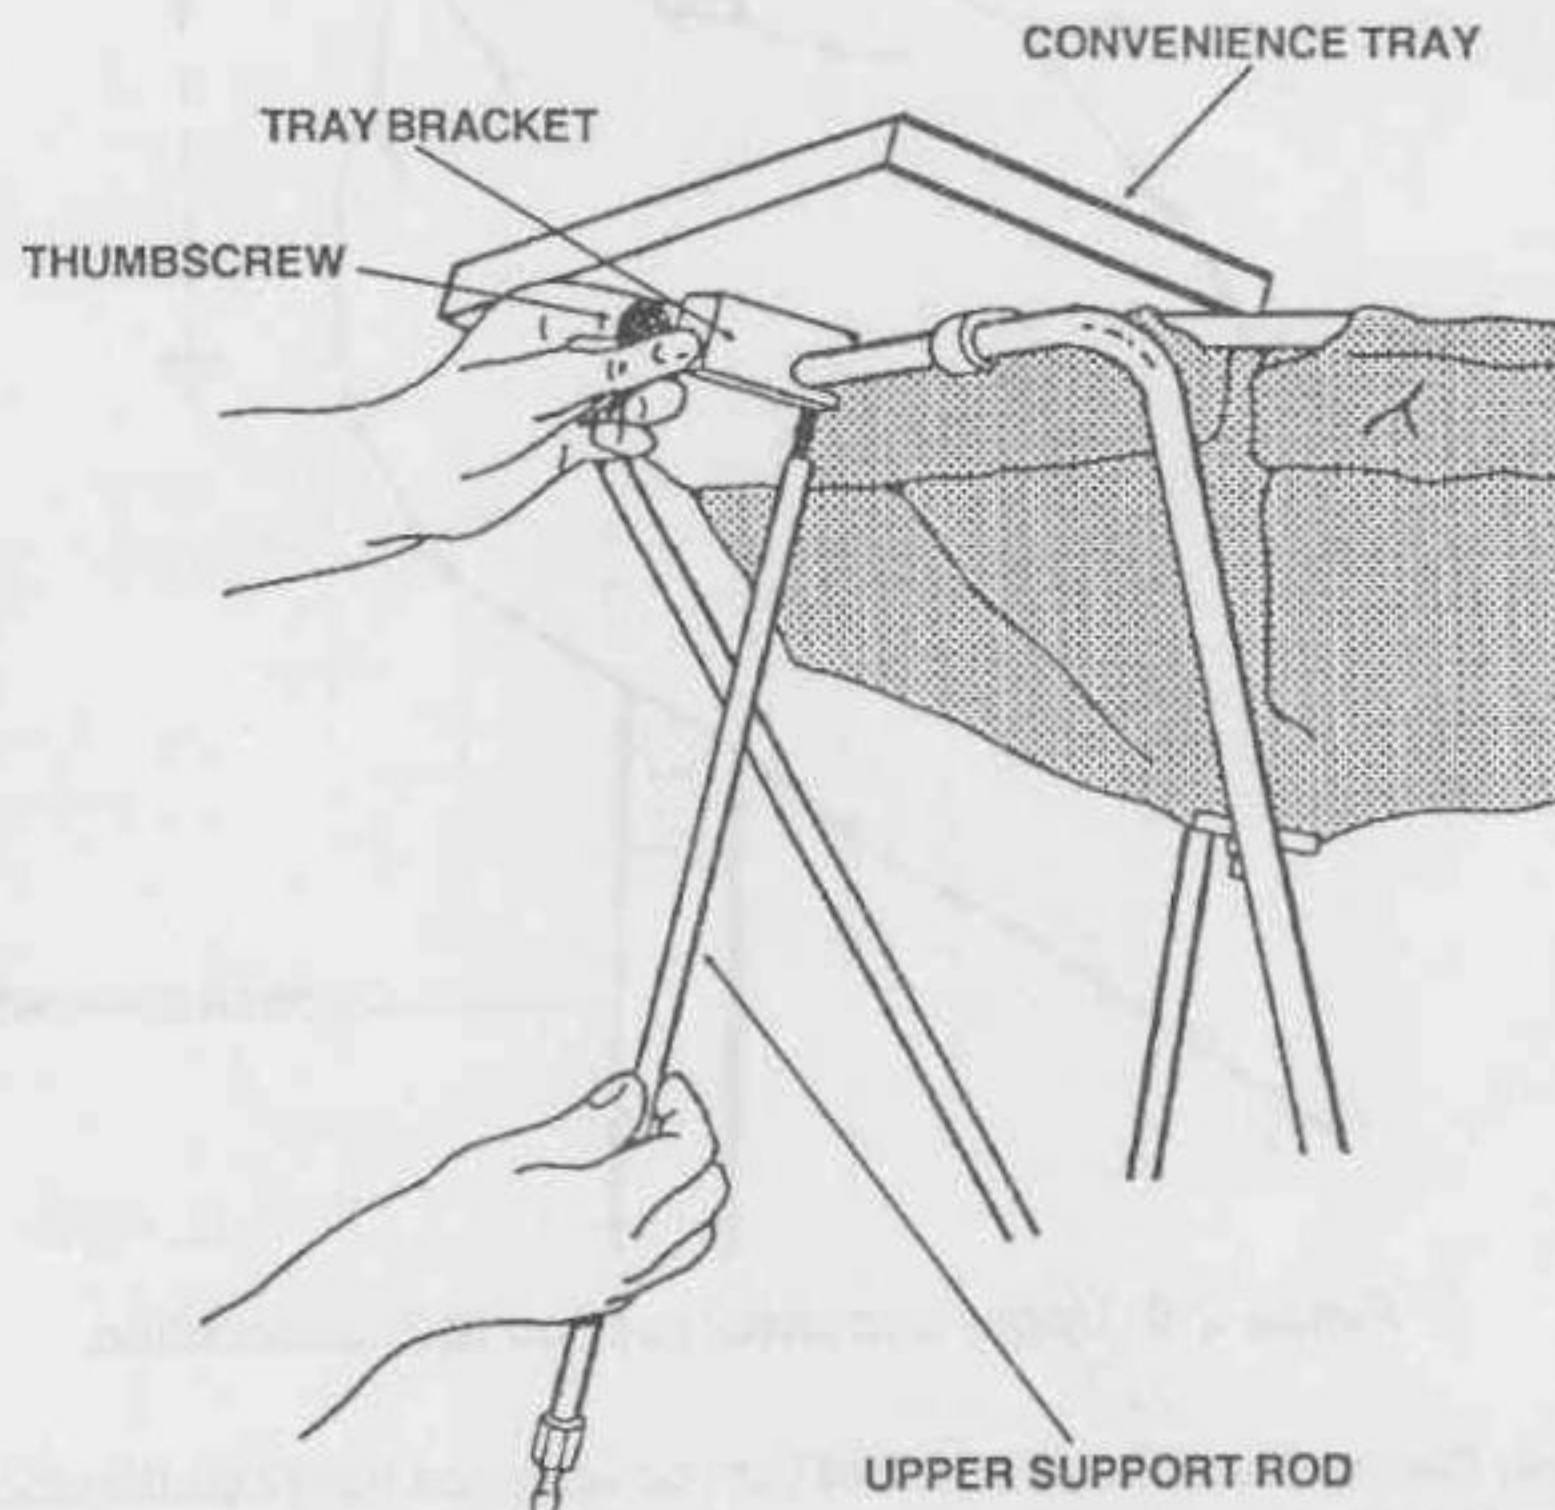

Figure 2-8. Upper support rod and convenience tray installation.
e. Install the convenience tray by sliding the slotted brackets on the underside of the tray onto the frame assembly. Continue to hold the tray in position and screw the threaded stud of the upper support rod into the bracket on the underside of the tray as illustrated in figure 2-8. When the threaded stud is hand tight, loosen it a half turn.